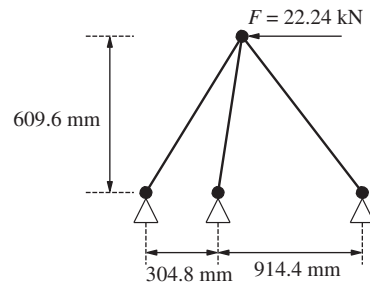

Figure P7.39 Finite element idealization of truss structure subject to loading.
- 7-39.** A structural engineer is performing a finite element analysis on an aluminum truss support structure subjected to a load as shown in Fig. P7.39. By the finite